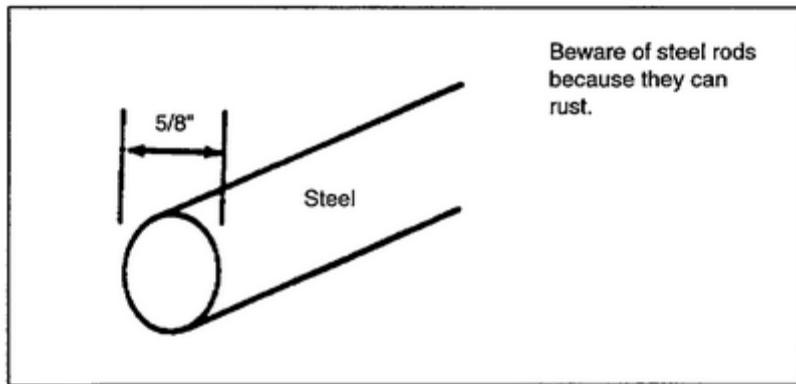

Figure 1-4. Solid-steel grounding rod
c. A solid-steel (ferrous metal) grounding rod is at least 5/8 inch in diameter (Figure 1-4).